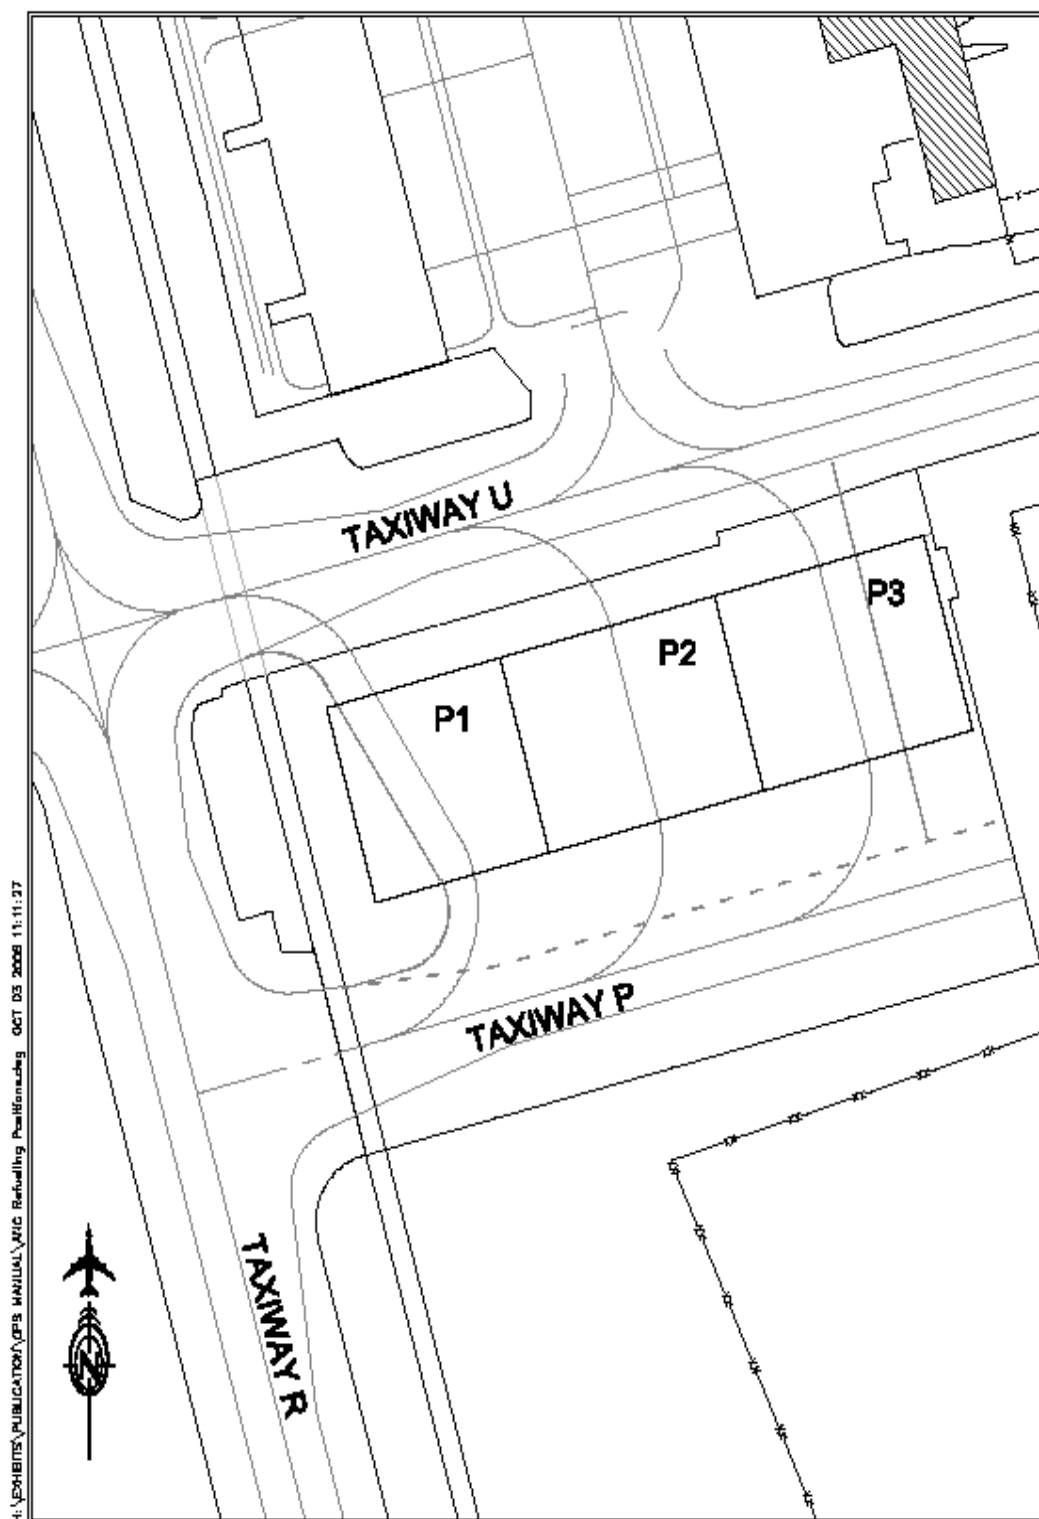

Figure 2
4.5 Papa Remote Parking Positions (Figure 2)